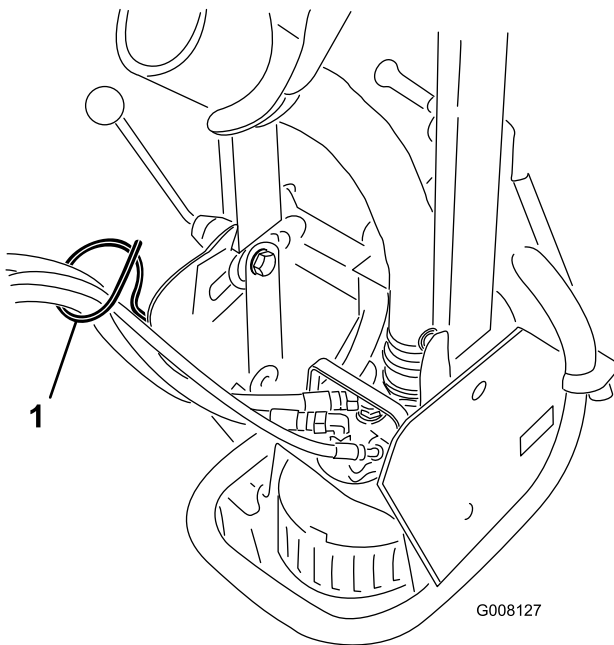

Figure 4
6. Plug the hydraulic hoses into the Sand Pro remote hydraulics. Position the hoses in the hose guide (Figure 4). Avoid kinks and sharp bends to the hydraulic hoses.